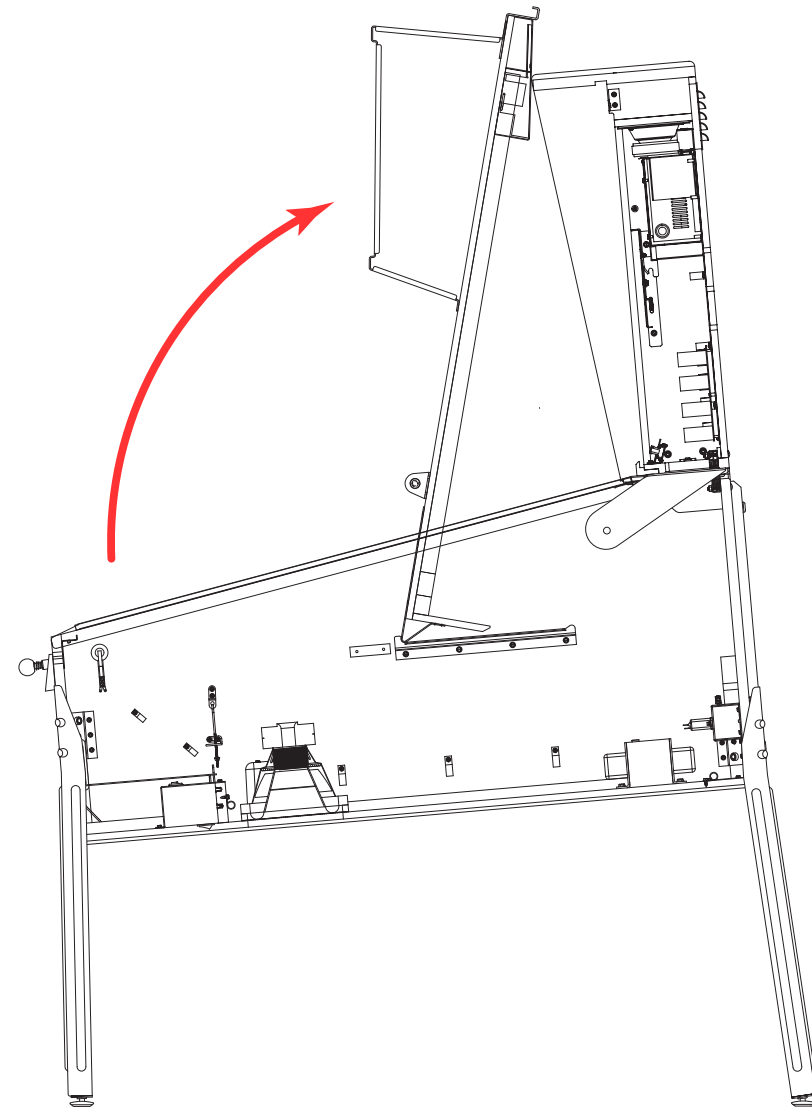

Figure A14. Moving the playfield to position 4.
15) Move the playfield from position 3 to 4 (figure A14). Grasp the two playfield support brackets and pull the playfield outward until the playfield support/slide bracket stop is reached; then swing the playfield up, resting the bottom arch against the front of the backbox.